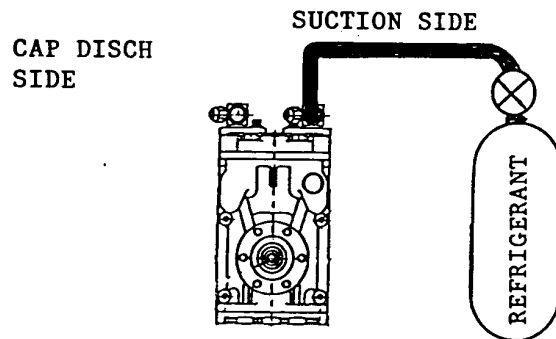

FIGURE 4
8.2 Static Test FIG. 4: Cap the discharge port. Connect a refrigerant bottle (R-12 or R-134a) to the suction service port. Open the valve on the refrigerant bottle or. Using a leak detector check for leaks. No leaks are permissible. If the service ports have back seating valves, be sure the valves are open (in the back seat position).
8.2.1 Alternate Static Test FIG 4. Cap the discharge port. Connect a source of dry nitrogen to the suction port. Apply the dry nitrogen at pressure of 85 psig  $\pm$  5. Using a soap solution check for leaks. No leaks are permissible. If the service ports have back seating valves, be sure the valves are open (in the back seat position).